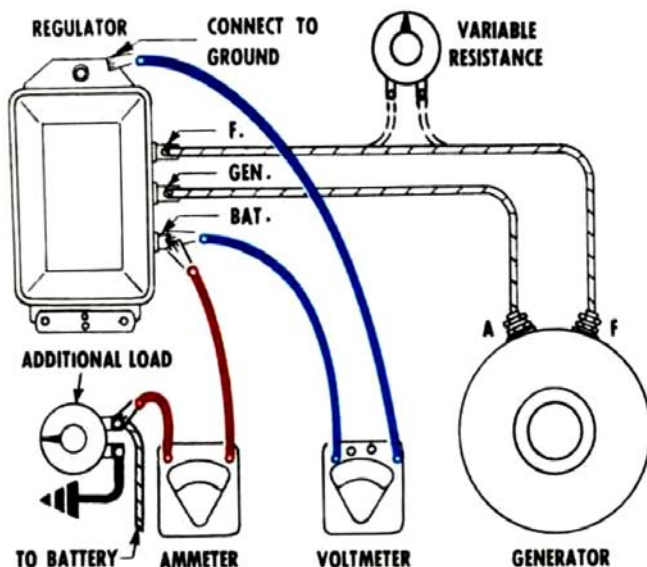

Figure 12 - Connections for checking current regulator by load method.
- (1) Connect ammeter into charging circuit, as in Figure 12.
- (2) Turn on all accessory load (lights, radio, etc.) and connect an additional load across the battery (such as a carbon pile or bank of lights) so as to drop the system voltage approximately one volt below the voltage regulator setting.
- (3) Operate generator at specified speed for 15 minutes **with cover in place**. (This establishes operating temperature; see paragraphs 3 and 4 in Regulator Maintenance.) If current regulator is **not** temperature-compensated, disregard 15-minute warm-up period.
- (4) Cycle generator and note current setting.